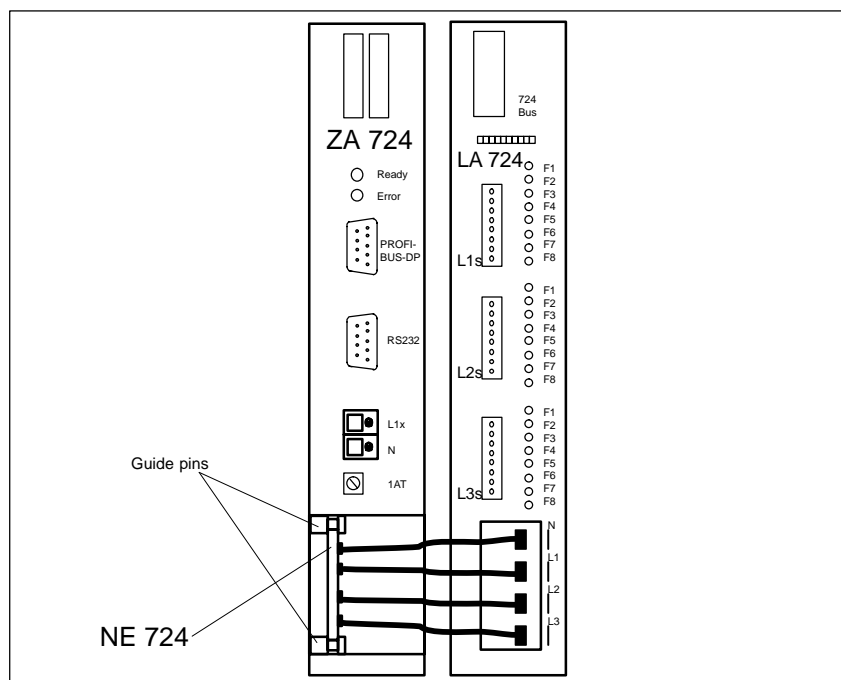

Figure 3-12 Location and connection of the NE 724
Make sure that the PCB is in the grooves of the guide pins. See figure 3-12.
4. Connect the cables of the NE 724 module to the conductor rail connectors of the next LA 724. See figure 3-12.